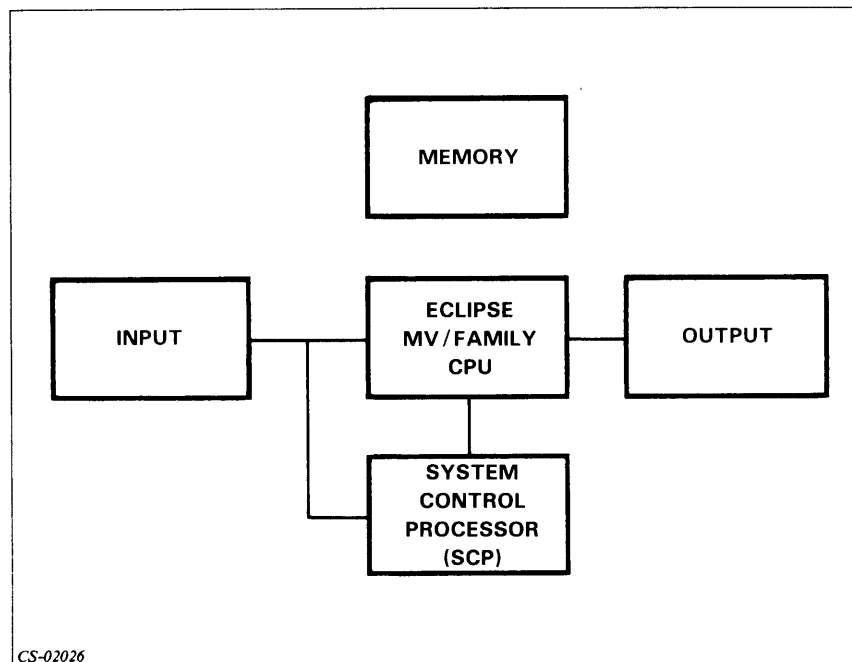

Figure 3.23 Module 3: Quiz Answer
8. Compare your drawing to Figure 3.23.